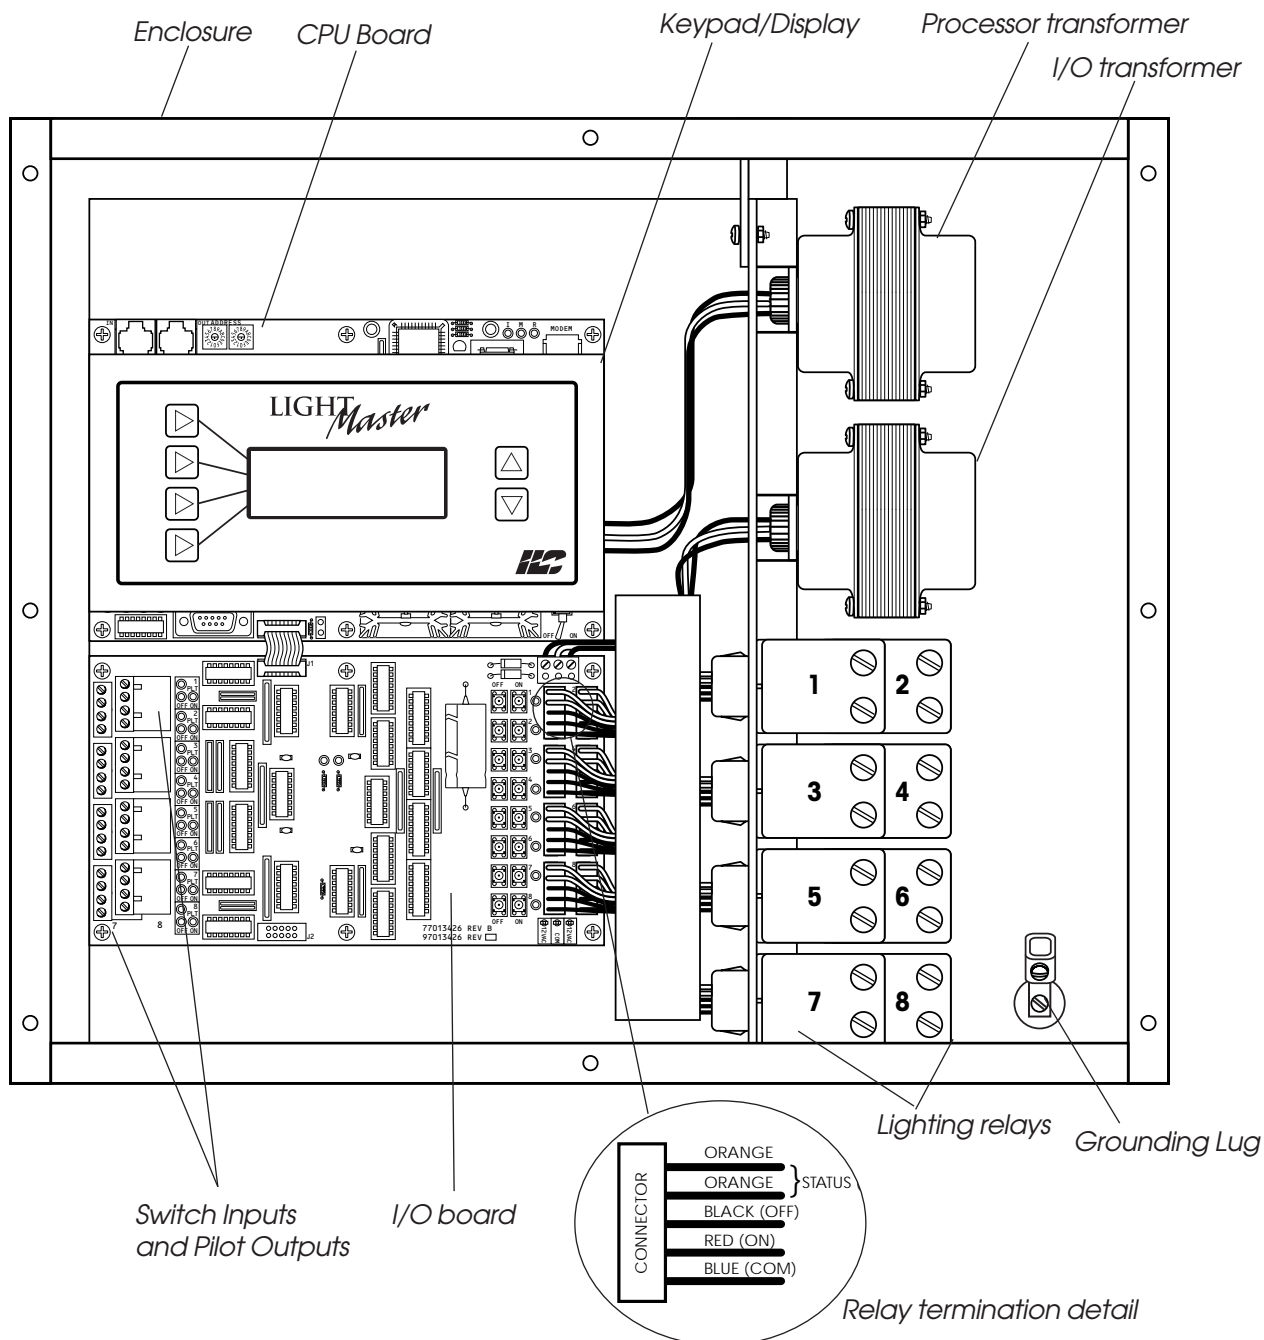

Figure 1.1 – LightMaster 8 Controller
The major components making up the controller are: (See Figure 1.1.)
1.1.1 Enclosure - The enclosure is rated NEMA 1. It is divided into a line voltage section containing the line voltage side of the control transformers and lighting relays and a low voltage section containing the Class 2 side of the lighting relays, transformer secondaries, and electronic components. Enclosures are available in 5 sizes to accommodate 8, 16, 24, 32, 40 and 48 inputs, outputs, and lighting relays. See (Table 1-1.) The LightMaster is shipped to the job-site as a complete assembly. (See Figure 1-1, which illustrates a LightMaster 8.)